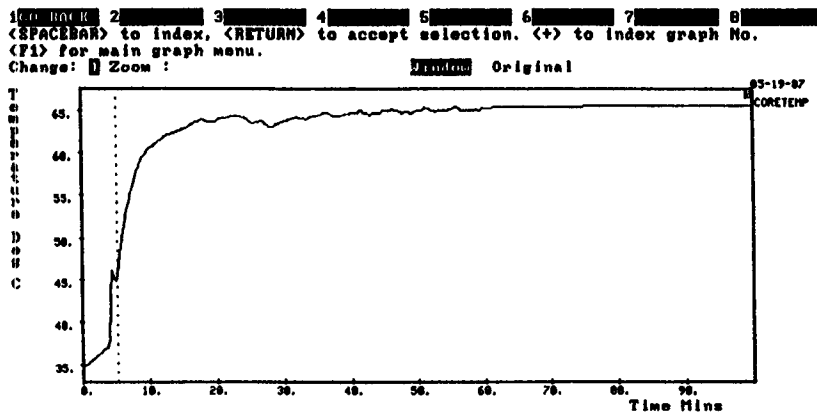

Figure 5-10. Zoom Utility
3. The words LEFT TOP RIGHT BOTTOM will appear on the screen above the graph. See Figure 5-10. LEFT will be highlighted. The highlighted position is the active cursor position for framing in the desired section of the graph to be windowed.